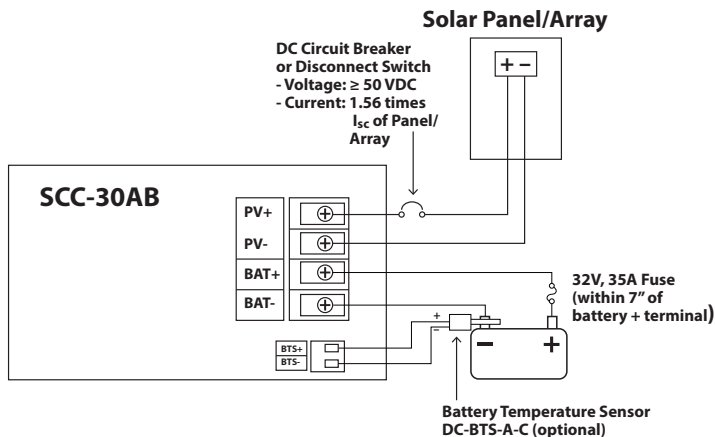

Fig. 6.2. Installation Diagram
- The connections to the SCC-30AB terminals are shown in the drawing at Fig. 6.2. A barrier type of Terminal Strip has been provided for connecting the PV array and the battery. M-4 screws with clamping washers are used to make the connection. A flat or a #2 Philips head screw driver may be used to tighten these screws. Tighten each terminal clamping screw to 20 inch-pounds of torque. The distance between the barriers is 9 mm and a standard Spade Type of terminal lug meant for #8 Stud and AWG #10 – AWG #12 wire may be used at the end of the wires to be connected to these terminals. **4 such terminal lugs are provided with the unit for ease of installation.**
BTS consists of a temperature sensing probe that is installed on the (-) Negative battery post (Fig. 6.2). The temperature of the battery post reflects the approximate temperature of the electrolyte. A pair of 10 metres wires (marked + & -) connect the temperature sensing probe to the 2 terminals marked (+) BTS and (-) BTS at the back of the unit (Figs. 5.2 & 6.2).